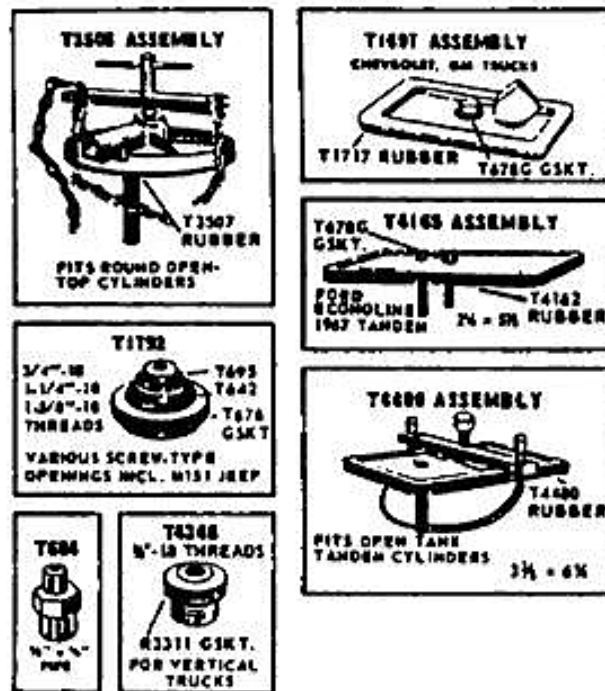

FIGURE 68. BLEEDER ADAPTERS
The filler/bleeder comes with seven bleeder adapters, Figure 68. They are designed to fit most master cylinders on the market at this time.
- b. Refer to Figure 68. Select and install the proper adapter and gasket. On most adapters, hand tightening is sufficient with clean surfaces and the proper gaskets. Others may require a wrench to tighten enough to hold the proper pressure.